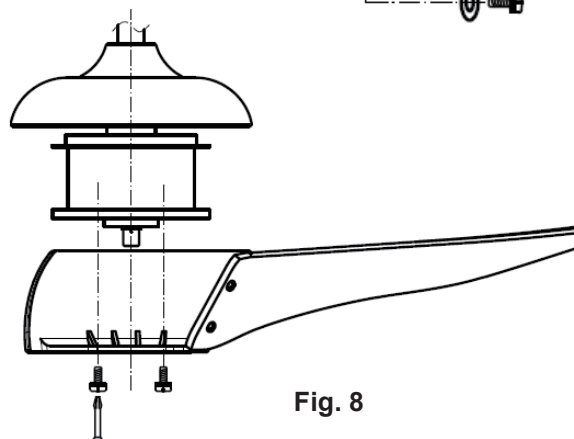

Fig. 8
- ◆ Install the blade assemblies to the motor by tightening the 2 motor screws. Fig.8